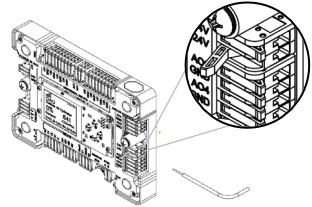

Figure 2
2. To wire the Connect module, remove the insulation of the cable for about 7mm (little over ¼ of an inch) lift the flap, insert the wire and push the flap down. Try pulling the wire out to make sure its firmly snapped in place. Refer to Figure 2 for details.